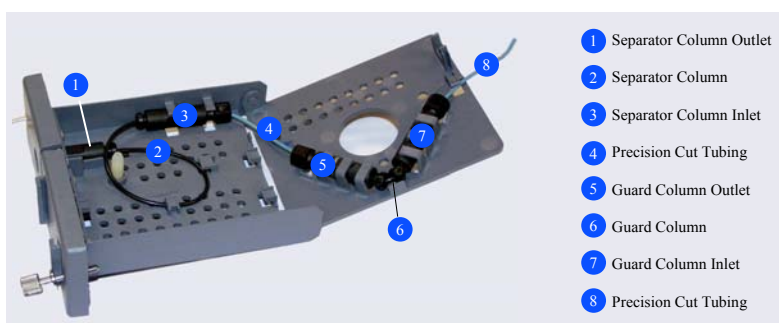
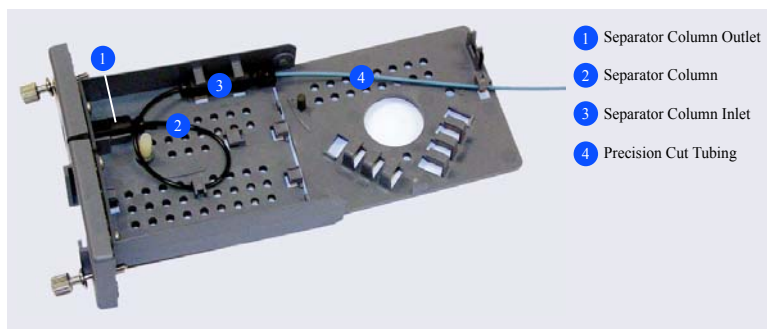

Figure 1
Figure 2
2. For reference, Figure 1 shows the column cartridge after installation of both a capillary guard column and a capillary separator column. Figure 2 shows the column cartridge after installation of only a capillary separator column.
7. Coil the separator column tubing inside the cartridge as shown in Figure 1 or Figure 2. Secure the column tubing and the inlet fitting in the clips on the column cartridge.